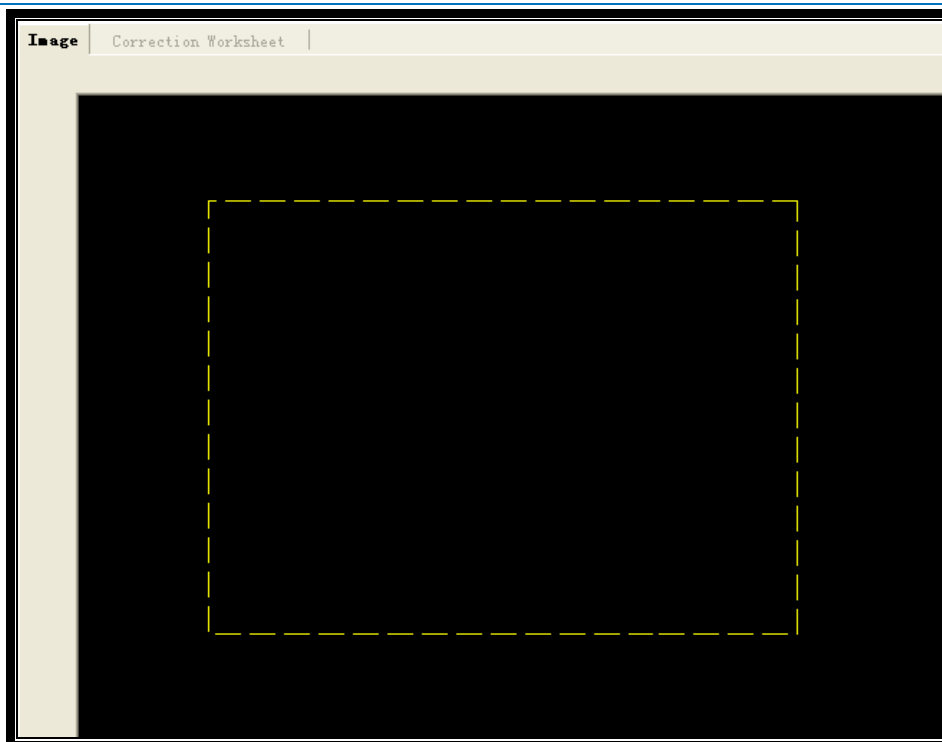

Fig.2-10
- **Image** is used for observing image which is returned by camera, shown as Fig. 2-10.